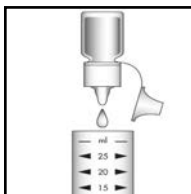

Figure 2
2. Add 3 drops of A-6502 Activator Solution (fig. 2). Cap the cup and shake it to mix the contents well.